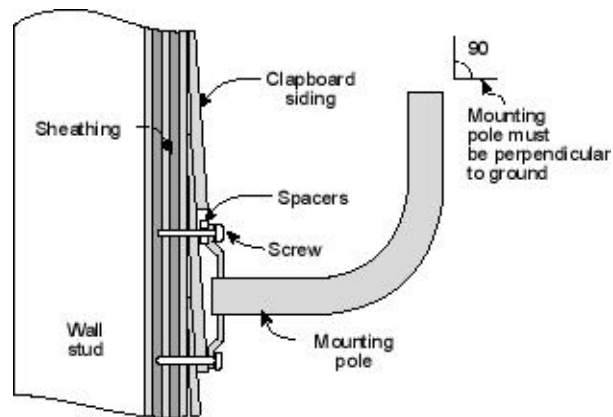

Figure 3-7. Optional Mounting Pole J Bracket on Clapboard Siding
2. Using a level, be sure that the mounting pole is perpendicular to the ground (J bracket is optional. Consult factory for part number and supply). You may need to use spacers, as shown in Figure 3-7.